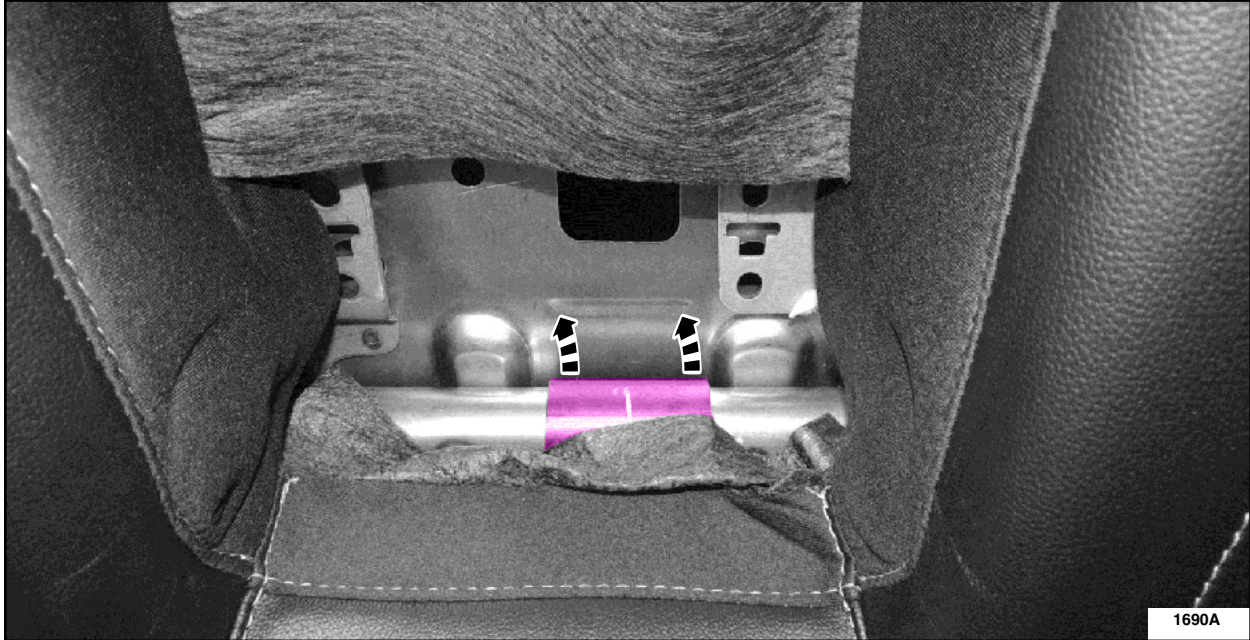

FIGURE 3
6. Detach J-clips from the frame. See Figures 3 and 4.